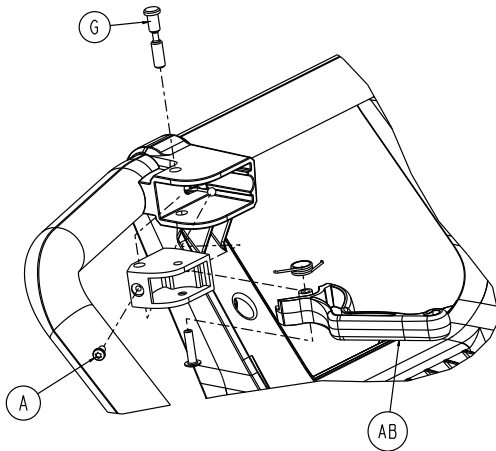

Figure 73 – Remove the manual release pivot pin
- Using a T20 Torx driver, loosen the manual release pivot pin (G) on the quick release handle (AB) (Figure 73). Remove and save the pin and quick release handle assembly.